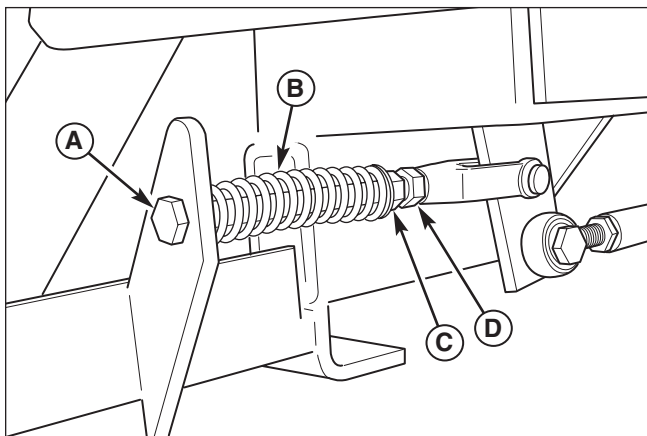

Figure 34. Neutral Spring Return Adjustment
3. Move the ground speed control levers towards the neutral position. If the levers do not align with the notches in the neutral lock plate, it is necessary to adjust the reverse return bolts (A, Figure 34).
1. Loosen the jam nut (D, Figure 34) locked against the clevis.
2. Turn the reverse return bolt (A) clockwise to adjust handle rearward, counter-clockwise to adjust handle forward.
After adjusting the neutral position, lock the levers in the neutral position and measure the reverse return spring (B, Figure 34) length. This should be 2-3/8" (6,03 cm) long. If not, hold the reverse return bolt (A) with a wrench while turning the spring position nut (C) until the measurement is achieved.